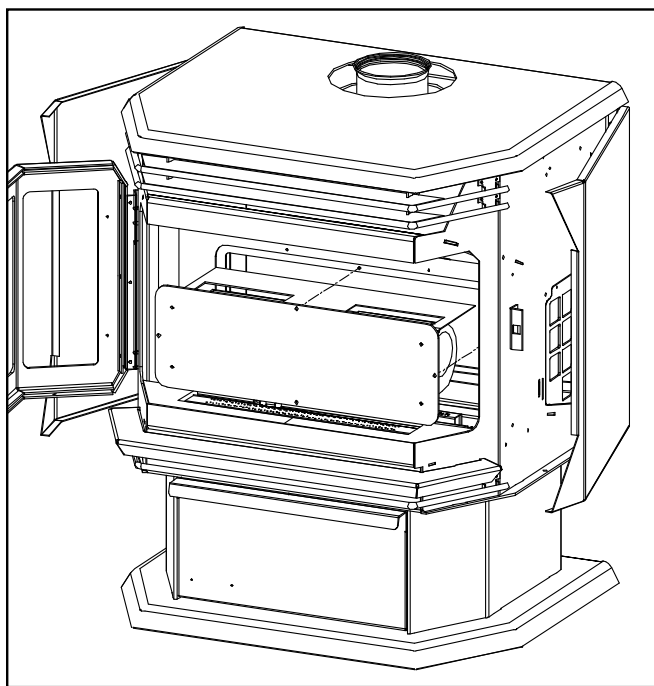

Figure 28: Blower (Fan) Removal.
3. Remove the four (4) $\frac{5}{16}$ " bolts that hold the blower mounting plate to the back firewall. Use a light lubricating oil on screws before removal.
5. Carefully pull the blower assembly into the firebox (see Figure 28). Install the blower onto the mounting bracket (blower outlets pointing through the two holes in the bracket) using the 4 screws provided.